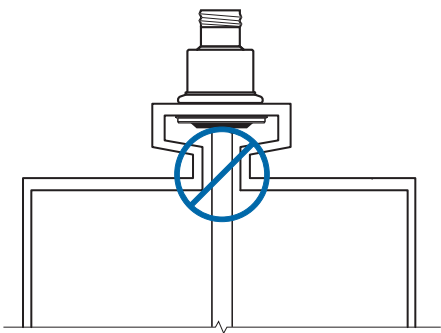

Figure 3
- 3. Pipe reducers that create restriction should not be used. See Figure 3.